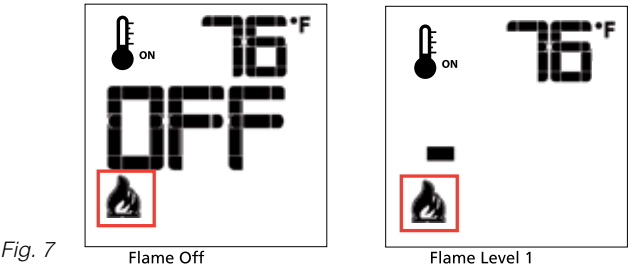

Fig. 7
The Proflame has six (6) flame levels. With the system on, and the flame level at the maximum in the appliance, pressing the Down Arrow Key once will reduce the flame height by one step until the flame is turned off. The Up Arrow Key will increase the flame height each time it is pressed. If the Up Arrow Key is pressed while the system is on but the flame is off, the flame will come on in the high position. ( Fig. 7 & 8 ) A single "beep" will confirm reception of the command.